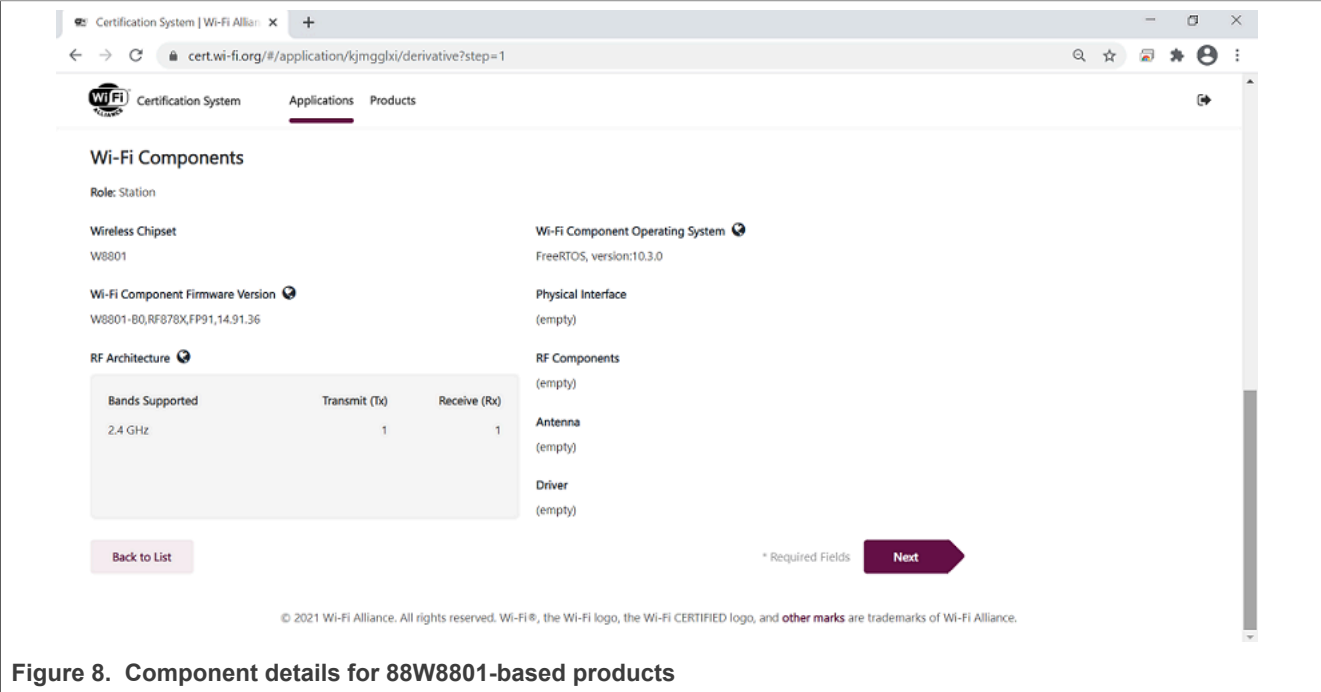
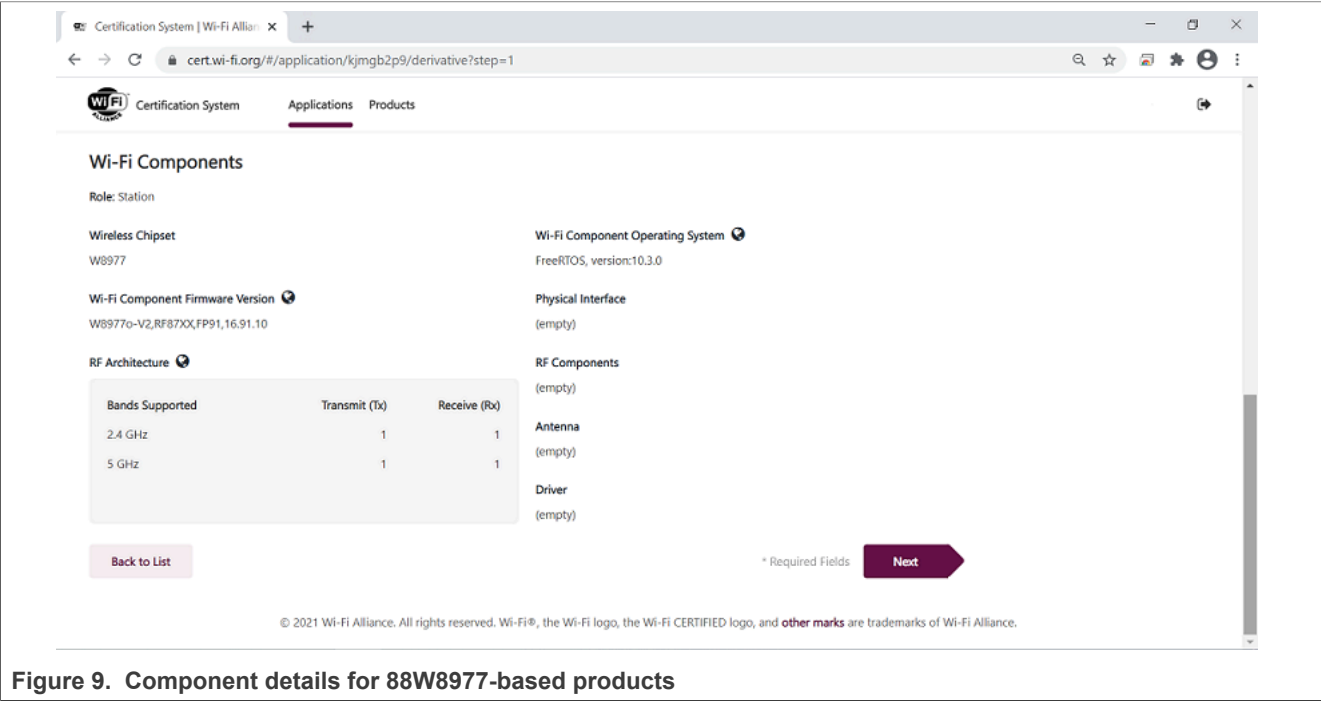

Figure 8. Component details for 88W8801-based products
Figure 9. Component details for 88W8977-based products
- Verify the Wi-Fi component details. Figure 8 shows the details for a 88W8801-based product, and Figure 9 shows the component details for an 88W8977-based product.